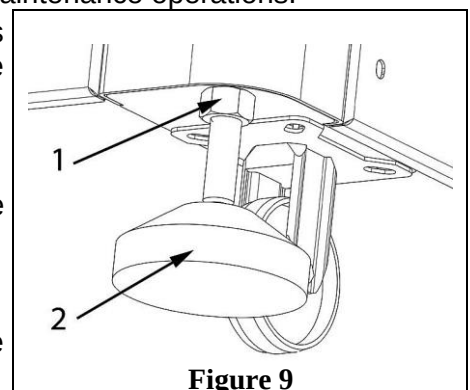

Figure 9
Once the machine is positioned, it is necessary to stabilize its support on the ground by adapting the position of the adjustable feet (as shown in Figure 9):
- Loosen the nut in Figure 9 pos.1.
- Adjust the height by tightening or loosening the foot (Figure 9, pos.2).
- Secure it by retightening the nut in Figure 9, pos.1.